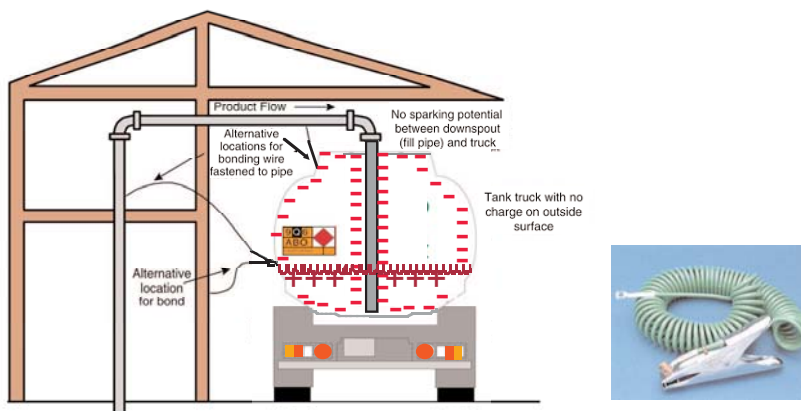

Figure 10 Ground tank trucks immediately after the truck is spotted and before the loading spout is inserted.
- Do ground tank trucks immediately after the truck is spotted for loading and before the loading spout is inserted, as shown in Figure 10. The connection shown eliminates the chance of any spark discharge from the truck to the loading pipe or other grounded object.